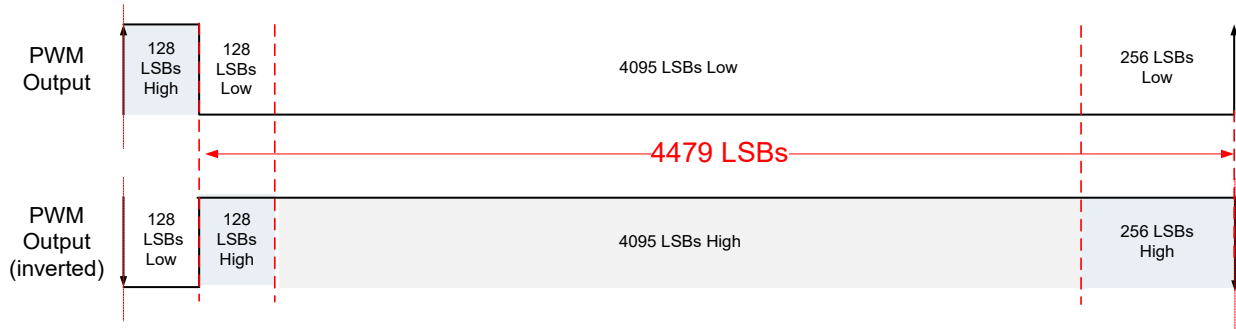
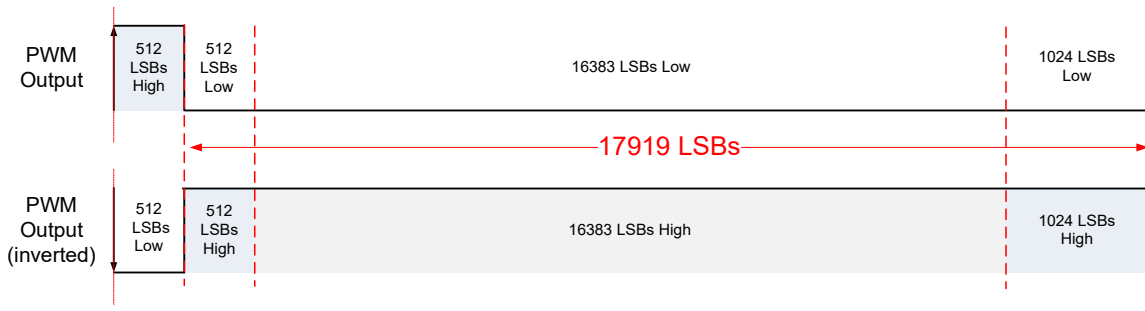

Figure 18. 12-bit PWM signal in Diagnostics Low mode
Figure 20. 14-bit PWM signal in Diagnostics Low mode
- Diagnostic Low mode, see Figure 18 and Figure 20